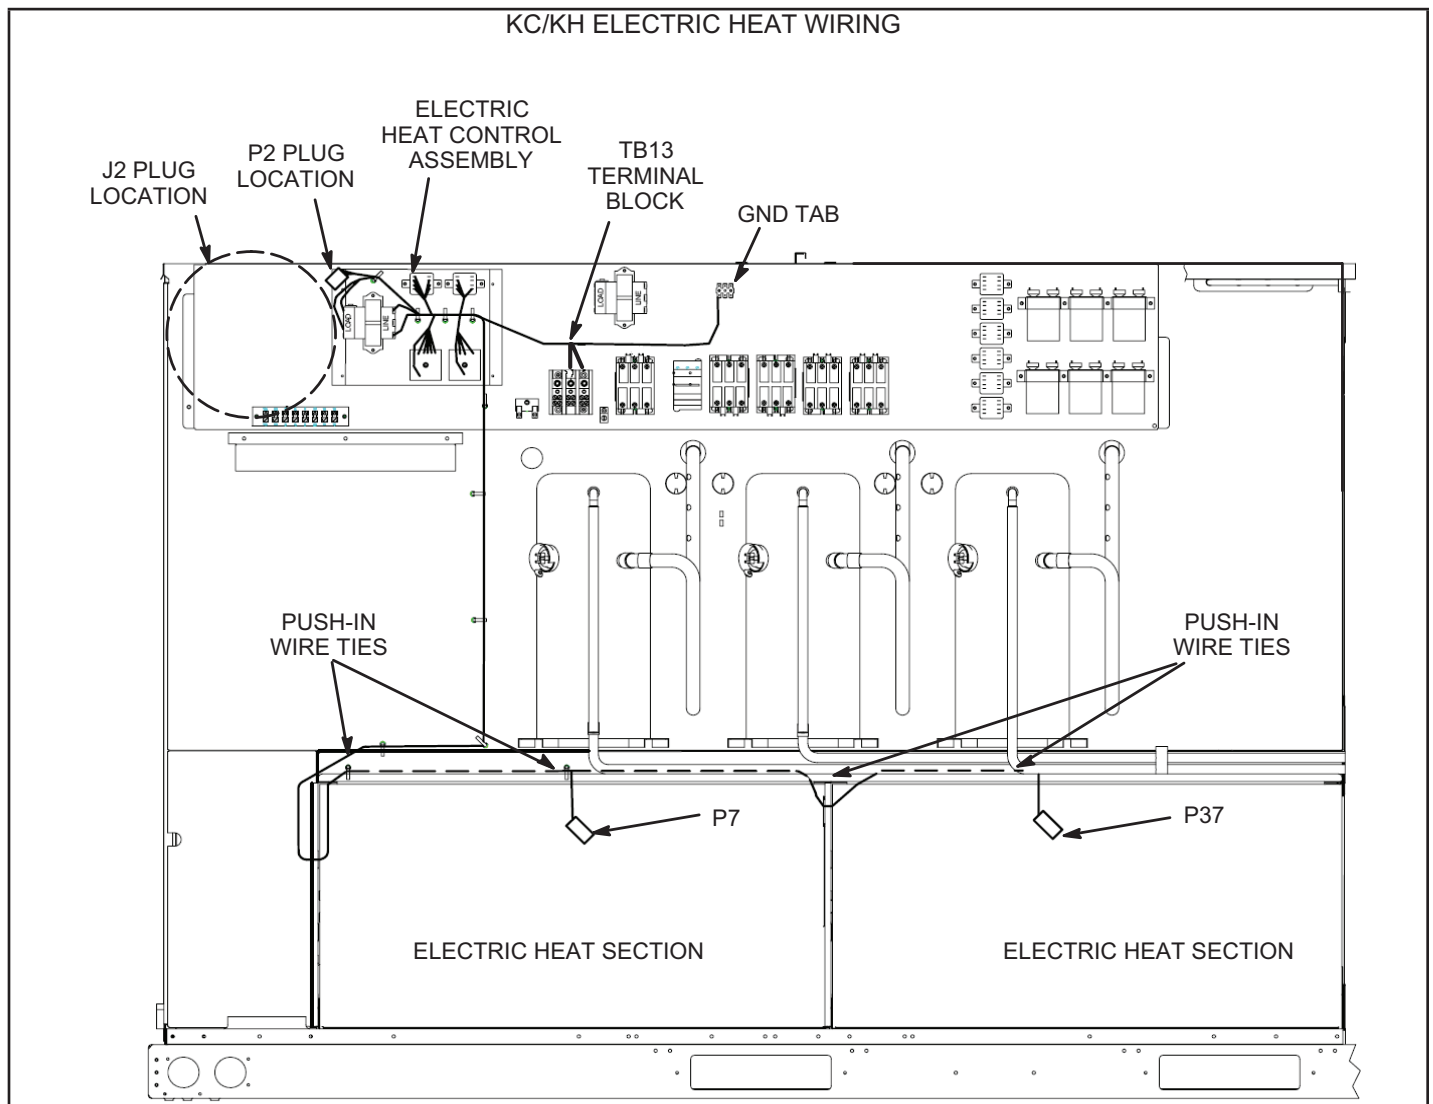

FIGURE 2
Install electric heat control module in control area as shown in FIGURE 2. Secure with #8 thread forming screws (provided).
Refer to FIGURE 2.
- 5 - Route wires marked "P7" and "P37" to the location shown in FIGURE 2 and secure harness with wire ties provided.